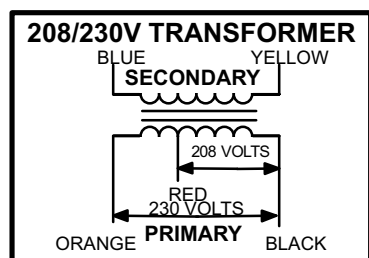

FIGURE 7
transformers use two primary voltage taps as shown in figure 7, while 460 (G) and 575 (J) voltage transformers use a single primary voltage tap.
All LCA/LHA series units with 45 - 90 kW electric heat use a single line voltage to 24VAC transformer mounted in the electric heat control hat section in the control box. The transformer supplies power to all electric heat controls (contactors and coils). The transformer is rated at 70VA and is protected by a 3.5 amp circuit breaker CB13. The 208/230 (Y) voltage transformers use two primary voltage taps as shown in figure 7. Transformer T2 is identical to T1.